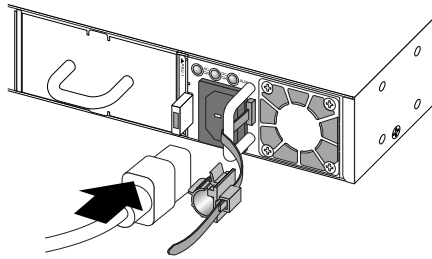

Figure 288: Connecting the Power Cord
- b. Connect the AC power cord to the input connector (see Figure 288).